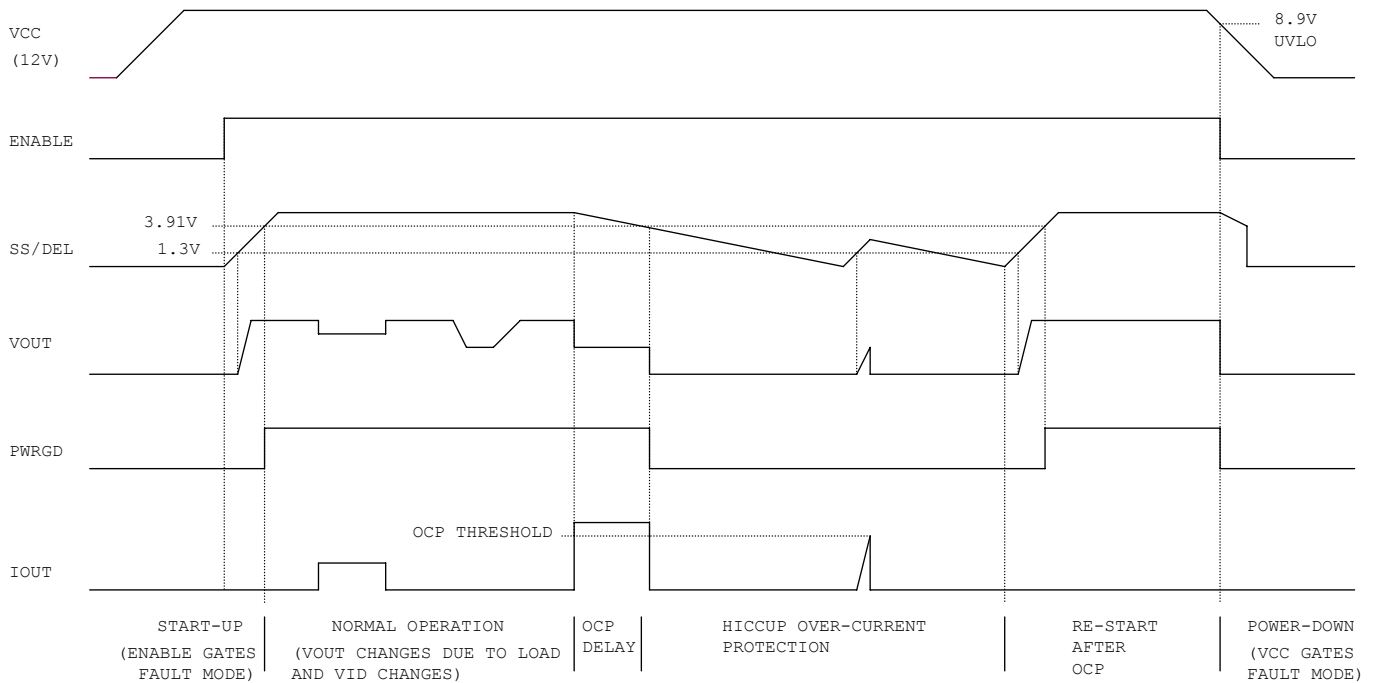

Figure 10. Operating Waveforms
Figure 10 depicts the various operating modes as controlled by the SS/DEL function. If there is no fault, the SS/DEL pin will begin to be charged. The error amplifier output is clamped low until SS/DEL reaches 1.3V. The error amplifier will then regulate the converter's output voltage to match the SS/DEL voltage less the 1.3V offset until it reaches the level determined by the VID inputs. The SS/DEL voltage continues to increase until it rises above 3.91V and allows the PWRGD signal to be asserted. SS/DEL finally settles at 4V, indicating the end of the soft start.
The SS/DEL pin voltage controls the slew rate of the converter output voltage, as shown in Figure 10. After the $ENABLE$ pin voltage rises above 0.6V, there is a soft-start delay time t_{SSDEL} , after which the error amplifier output is released to allow the soft start. The soft start time t_{SS} represents the time during which converter voltage rises from zero to V_O . t_{SS} can be programmed by an external capacitor, which is determined by Equation (1).